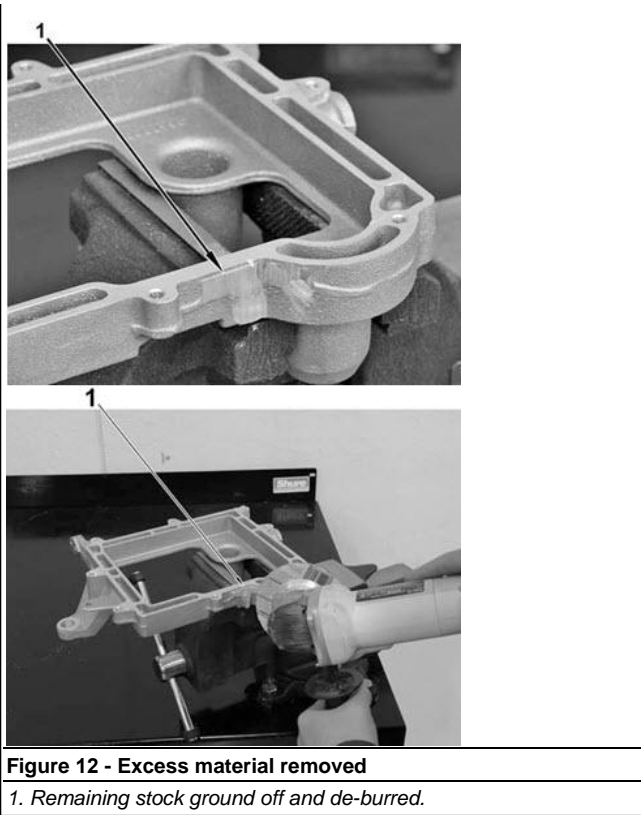

**Figure 11 - ECM Bracket**
14. Using hack-saw or other acceptable method, cut off harness support bracket from bottom of ECM bracket (Figure 11, Item 1).